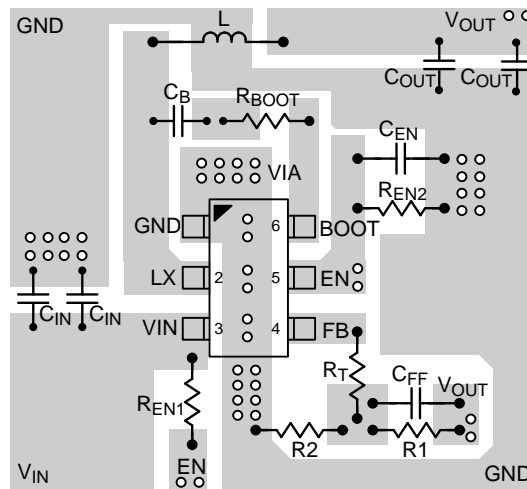

Figure 9. PCB Layout Guide for TSOT-23-6 package
- An example of RT6214A/B PCB layout guide is shown in Figure 9 and Figure 10 for references.